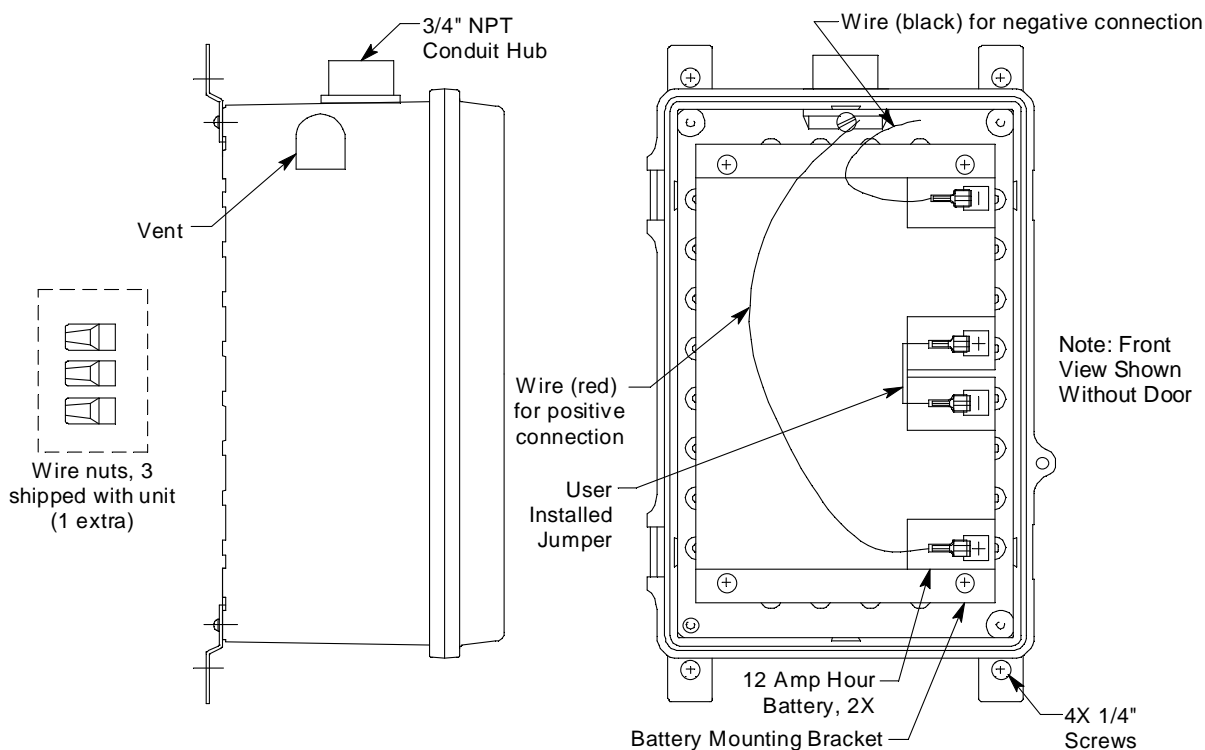

Figure 1: Standby Battery Component Location
4. Place the batteries in the enclosure and arrange them so that all battery terminals are on the right as shown in Figure 1.
7. Install the positive (red) wire to the "+" connection on the bottom battery (see Figure 1). This wire is one of three wires in a small bag included with the shipping contents.
8. Install the negative (black) wire to the "-" connection of the top battery (see Figure 1). This wire is one of three wires in a small bag included with the shipping contents.
9. Install the wire jumper between the “+” connection of the top battery and the “-” connection of the bottom battery (see Figure 1). This wire is one of three wires in a small bag included with the shipping contents.